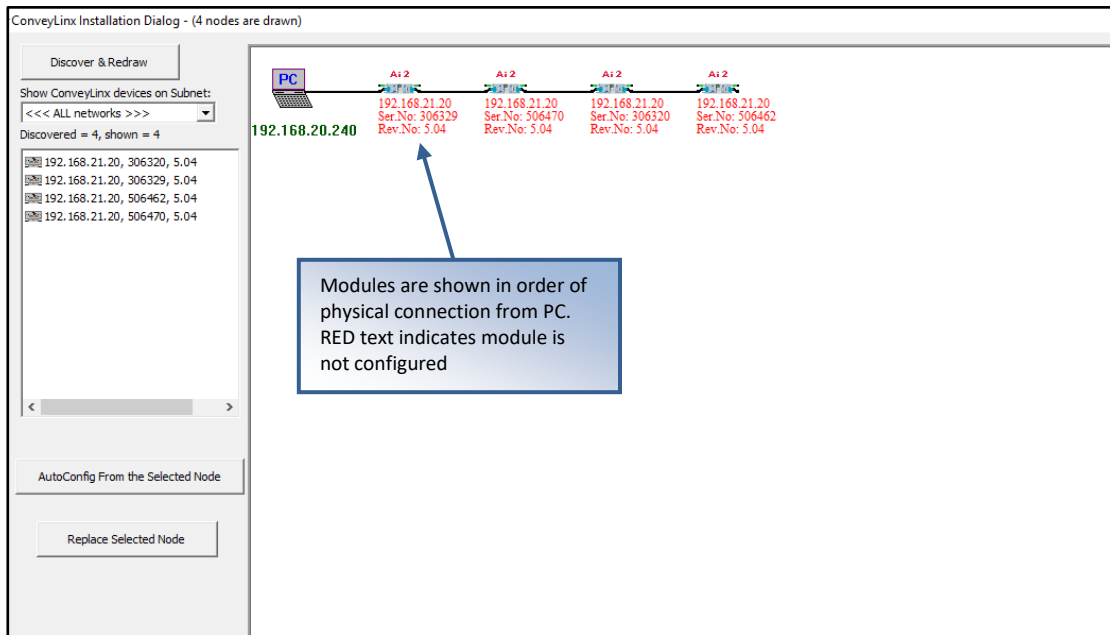

FIGURE 26 – TOPOLOGY VIEW AND INITIATING AUTO-CONFIGURE FROM THE SELECTED NODE
3. When the topology is drawn, select the *Module* from which you want to configure the line and click "Auto-Configure from selected node" as shown in *Figure 26*.